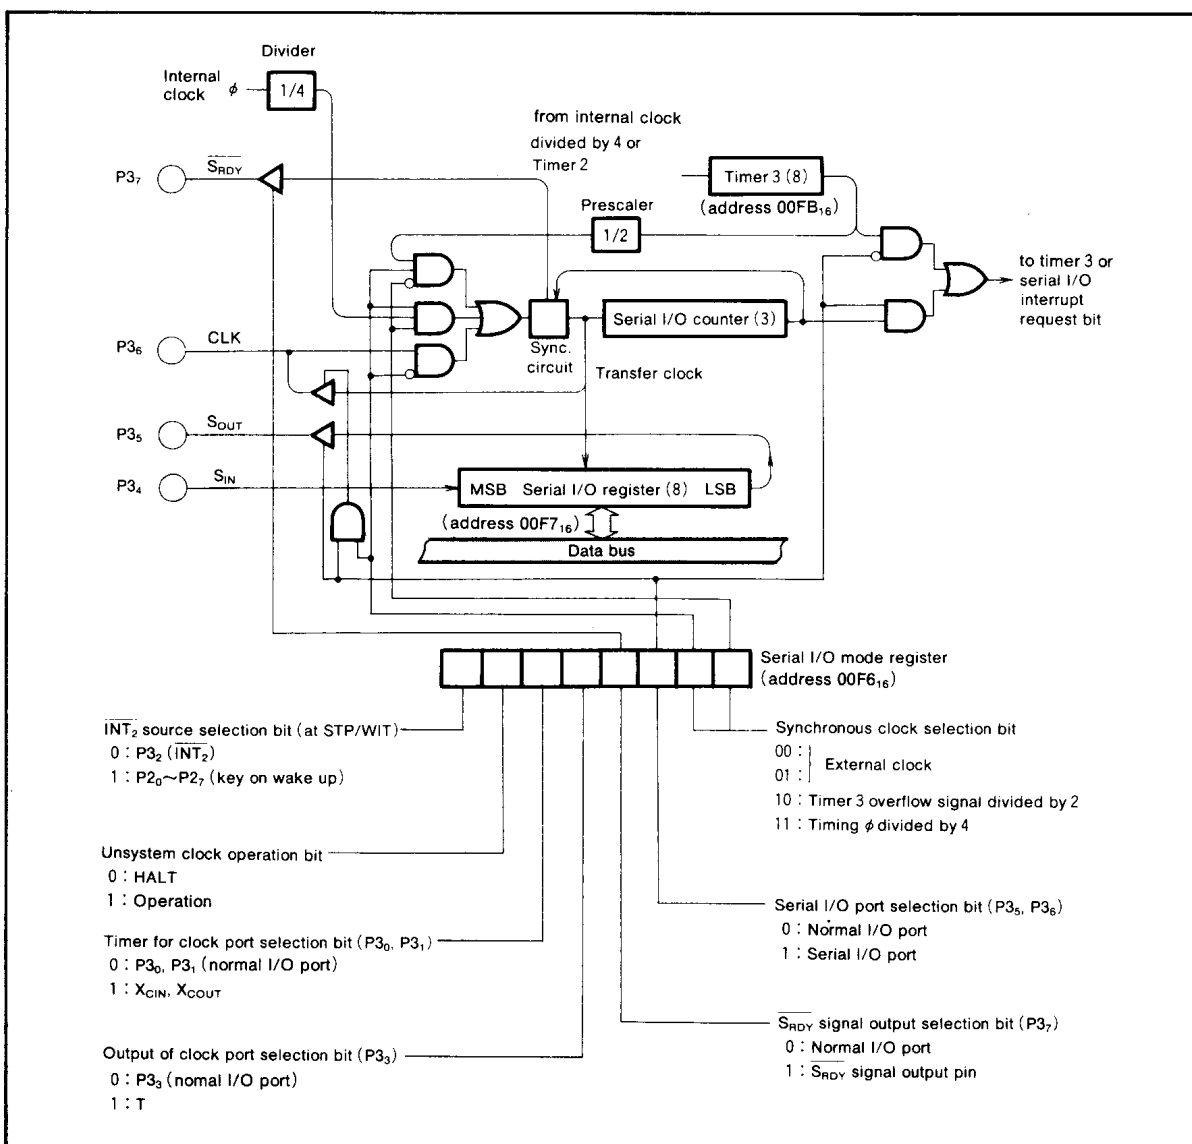

Fig.8 Block diagram of serial I/O
The block diagram of serial I/O is shown in Figure 8. In the serial I/O mode the receive ready signal ($\overline{S_{RDY}}$), synchronous input/output clock (CLK), and the serial I/O (S_{OUT} , S_{IN}) pins are used as P3₇, P3₆, P3₅, and P3₄, respectively. The serial I/O mode register (address 00F6₁₆) is an 8-bit register. Bit 0 and 1 of this register is used to select a synchronous clock source. When these bits are (00) or (01), an external clock from P3₆ is selected. When these bits are (10), the overflow signal divided by two from timer 3 becomes the synchronous clock. Therefore, changing the timer period will change the transfer speed. When the bits are